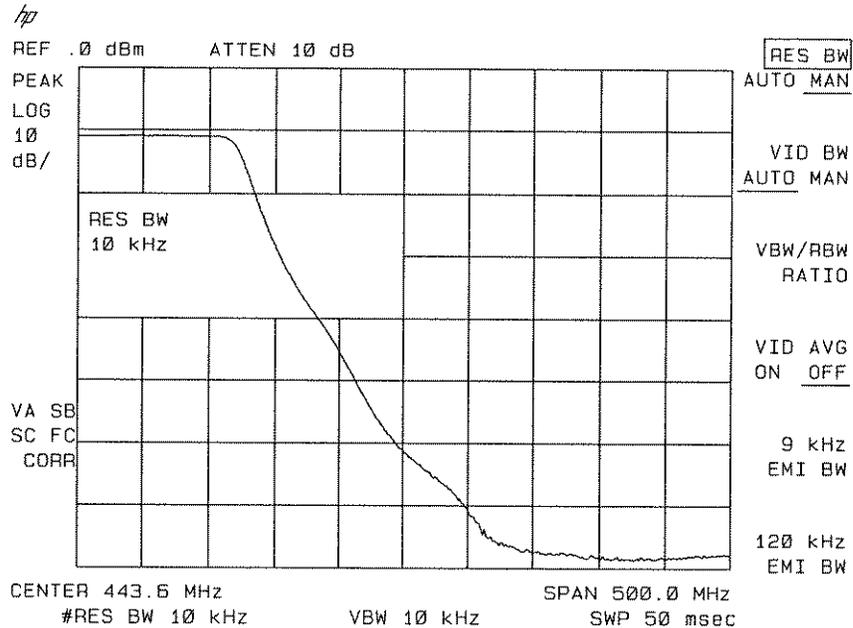

Figure 6-36. Decrease the Resolution Bandwidth to Improve Sensitivity
- Decrease the resolution bandwidth to increase sensitivity, and narrow the video bandwidth to smooth the noise. In Figure 6-36, the resolution bandwidth has been decreased to 10 kHz.